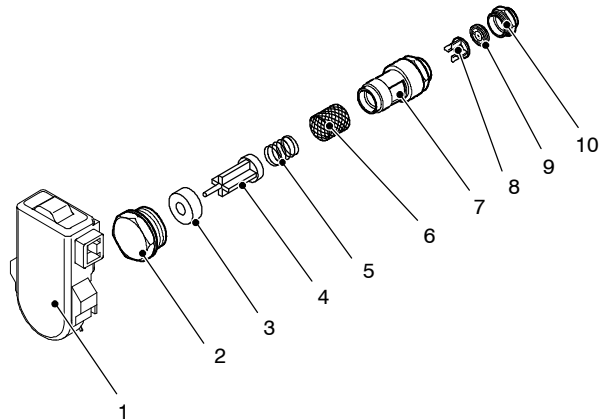

Fig. 60
When the flow rate through the d.h.w. circuit reaches about 2,5 litres/min', the float 4 (Fig. 60) is drawn towards the right.
15.2 Nomenclature and location of parts (Fig. 60)
- 4 Unscrew the plug 2 (Fig. 60) and extract the flow switch group.
- 5 To remove the filter from the flow switch group separate the body 7 from the plug 2 (Fig. 60) by unscrewing it.
Attention: the ring 3 (Fig. 60) has a magnetic polarity and must be correctly coupled with the spindle of the float 4.
- 2 Unscrew the threaded ring 10 (Fig. 60) and remove it from the body 7.